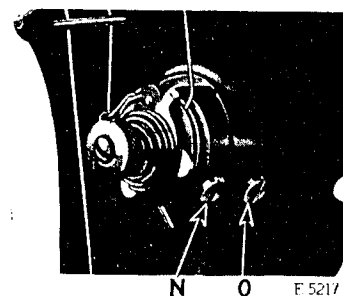

Fig. 15. Adjustments of Thread Controller
For more controller action on the thread, loosen the stop screw (N, Fig. 15) at the right of the tension and set the stop lower, and for less action, set the stop higher.
To strengthen the action of the controller spring on the thread, loosen the tension stud screw (O, Fig. 15) at the right of the stop screw and turn the tension stud slightly to the left with a screwdriver, or to lighten its action on the thread, turn the tension stud to the right and tighten the tension stud screw (O).